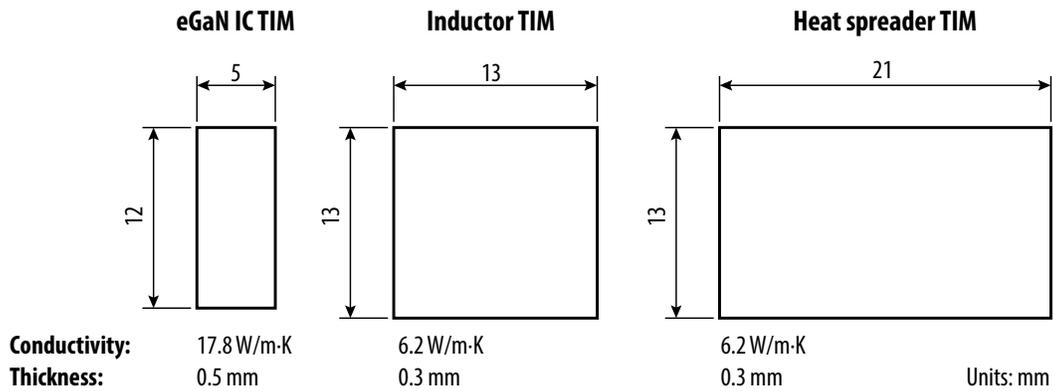

Figure 9 Details of the TIM's used on the EPC9177 demonstration board
- A thermal interface for the eGaN IC, see figure 9
- A thermal interface for the Inductor, see figure 9
- A thermal interface for the heat-spreader, see figure 9